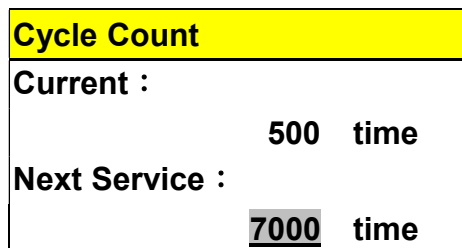

Figure 147
C. Press  or  button to change next service times, and press  button to store the parameter in Figure 147.